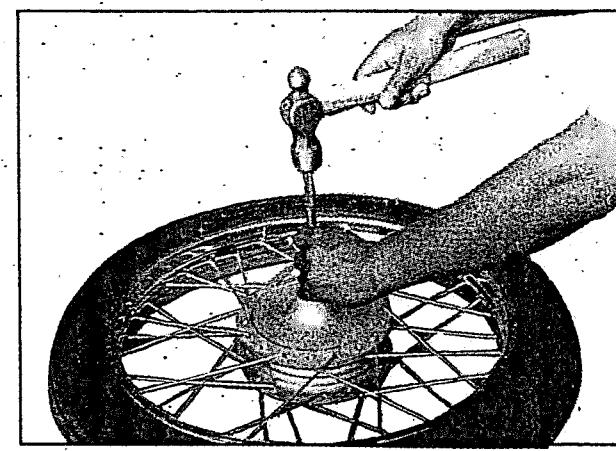

Fig 6.5
- Tap out the right and left wheel bearings with a suitable mandrel (fig 6.5)